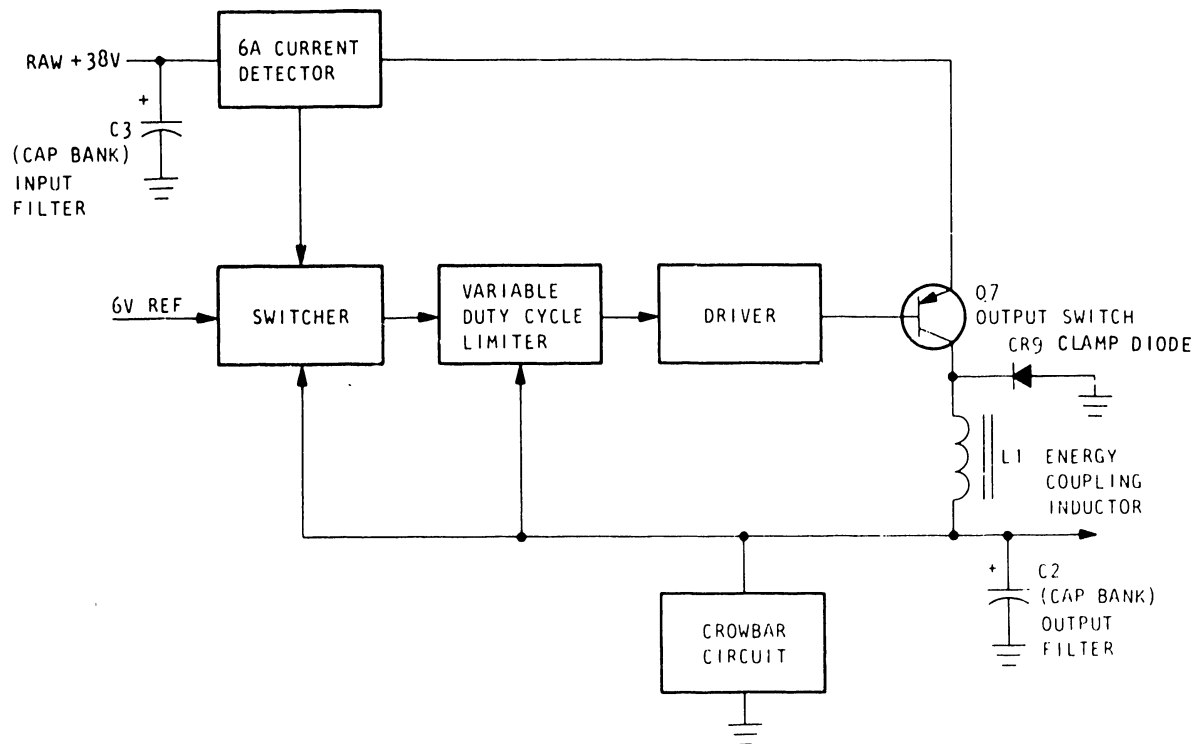

Figure 2-63. +38V Regulator Block Diagram
1. +38 Volt Regulator - The regulator (as shown in **figure 2-63 and SH 56**) converts a 44V to 60V RAW +38 volt source to a regulated +38 volts that is controlled by a 6.2 volt reference supplied from the Power Board CCA (**SH 38**). The +38 volt output, through a resistor-divider network consisting of R10, R22, R31, and R38, is dropped to 6.2 volts and fed to comparator U1-6. This condition is compared with the 6.2 volt reference at U1-7 and will keep U1-1 at a low level.